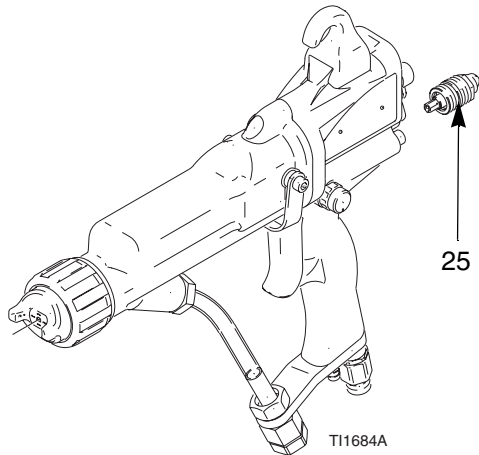

Fig. 32. Fluid Adjustment Valve
2. Remove the fluid adjustment valve (25). It can only be replaced as a complete assembly. See FIG. 32..
3. Screw the valve (25) into the gun handle. Torque to 15-25 in-lb (1.7-2.8 N•m).